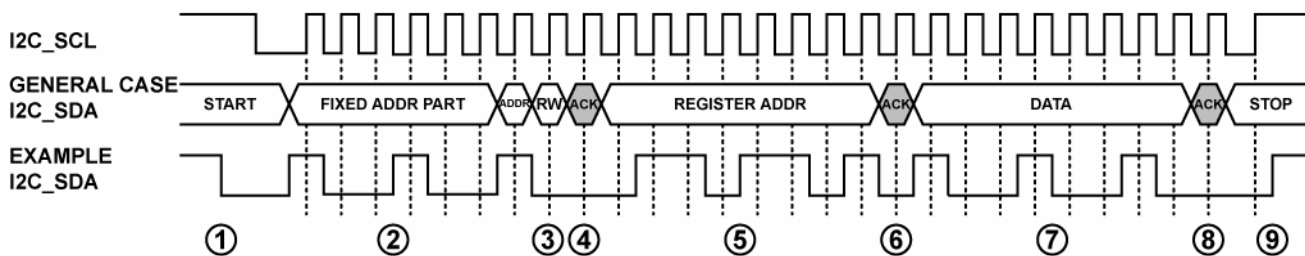

Figure 14. I²C Write Diagram
To write data to the AD8191 register set, an I²C master (such as a microcontroller) needs to send the appropriate control signals to the AD8191 slave device. The signals are controlled by the I²C master unless otherwise specified. For a diagram of the procedure, see Figure 14. The steps for a write procedure are as follows:
3. Send the write indicator bit (0).
- 9a. Send a stop condition (while holding the I2C_SCL line high, pull the I2C_SDA line high) and release control of the bus to end the transaction (shown in Figure 14).